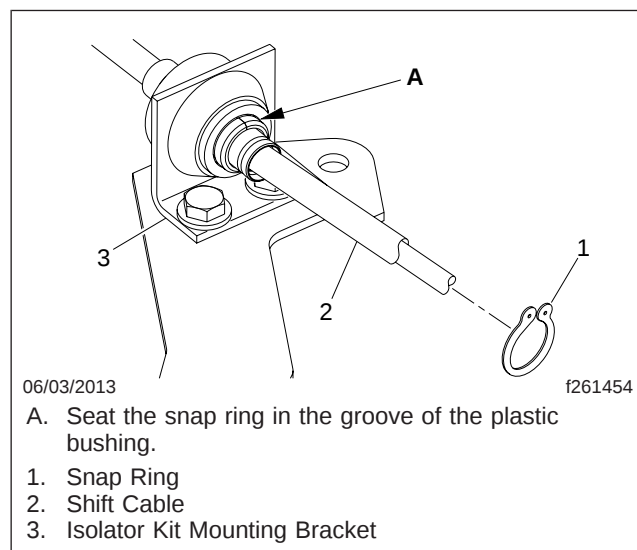

Fig. 5, Snap Ring Installation
9. Install the cable in the bracket using the remaining isolator kit parts. Make sure the snap ring is seated in the groove of the plastic bushing; see Fig. 5.